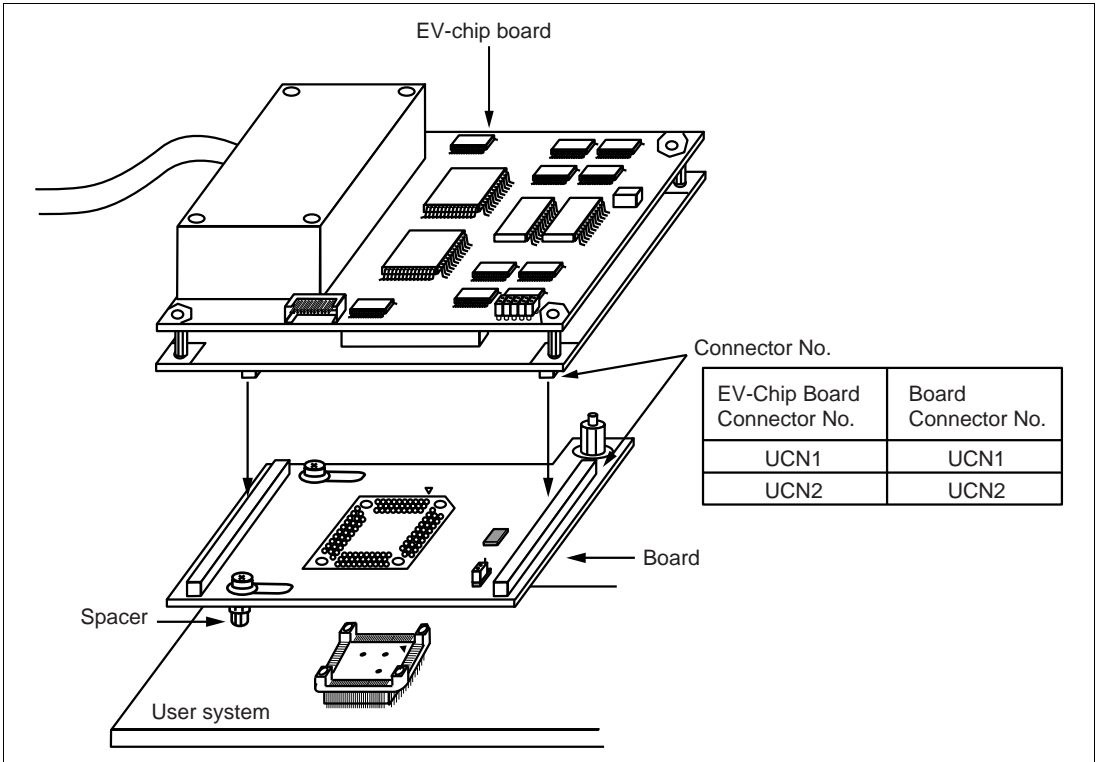

Figure 9 Connecting User System Interface Board to EV-Chip Board
2. Align the connectors on the board with those on the EV-chip board according to their numbers (figure 9).